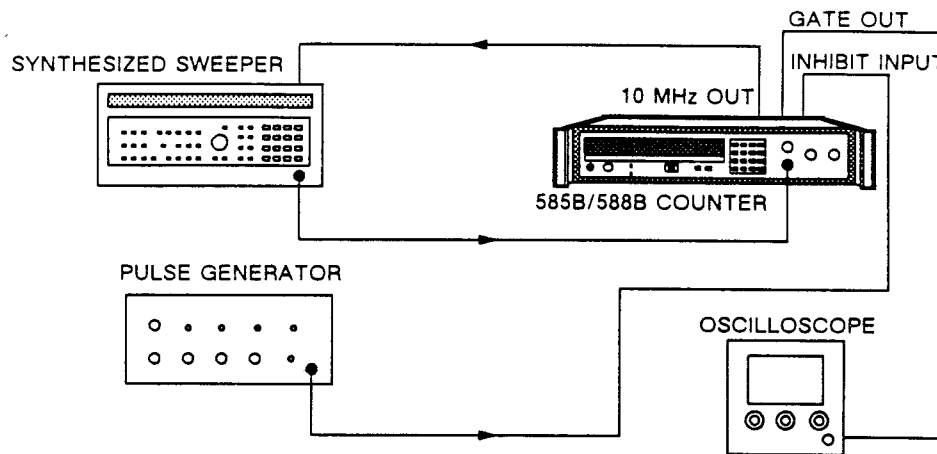

Figure 8-8. Band 1 Gate Error Test Setup.
1. Connect equipment as shown in Figure 8-8 and turn equipment on.